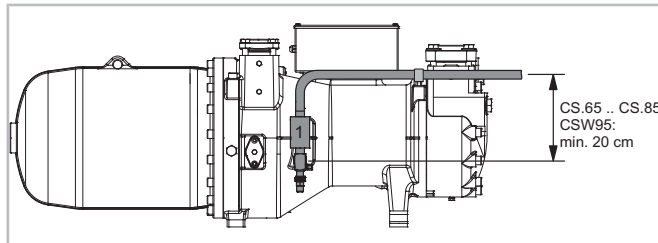
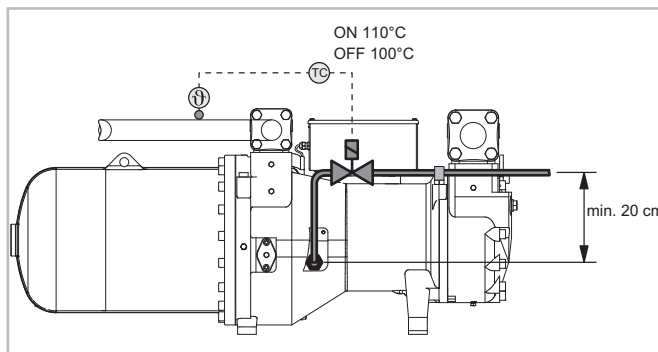

Fig. 5: Pipe layout of the ECO suction gas line at the compressor
Fig. 6: Pipe layout for liquid injection (LI) with liquid injection valve
Optional pipes for economiser (ECO) (not for CSH95), see figure 5, page 56 and/or liquid injection (LI), see figure 6, page 56 must first be routed upward from the connection. This avoids oil migration and damage to the components through hydraulic pressure peaks (see manual SH-170).